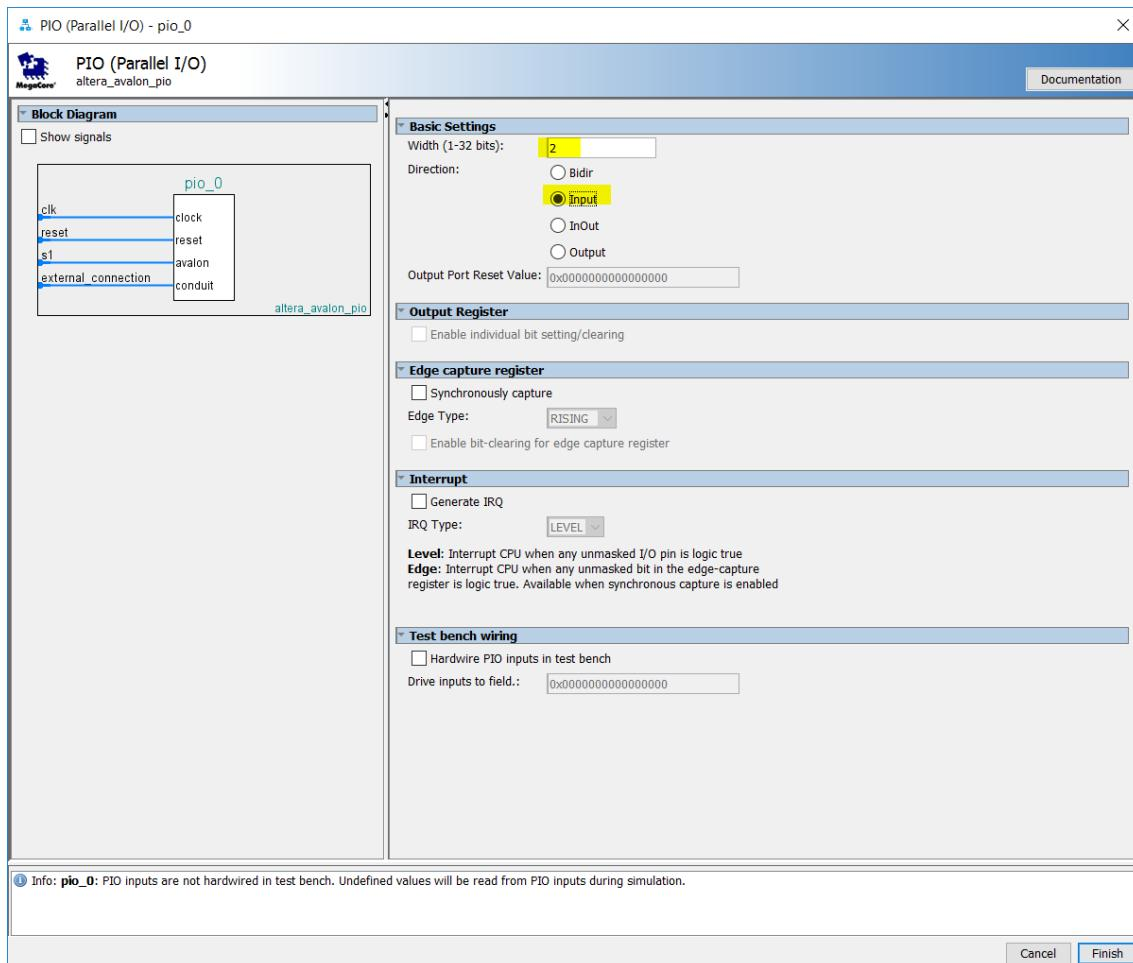

Figure 15: Parallel IO Configuration Panel for Pushbuttons
- When you have setup your button input component interface as in Figure 15, click **Finish**.